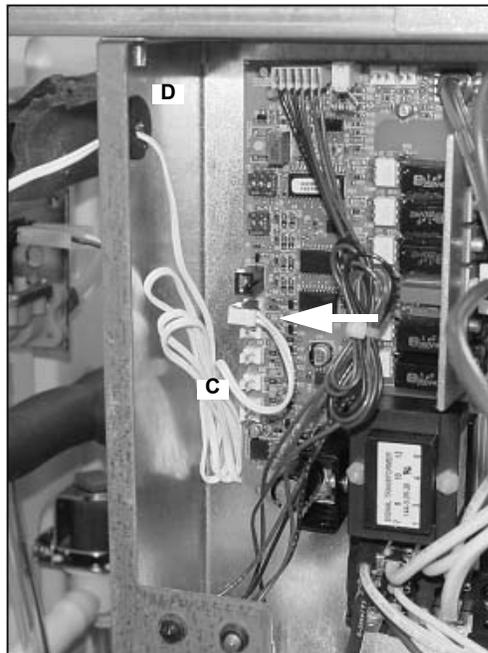

Figure 52.
57. Insert the proximity switch harness (C) through the control box and attach to the control board. Install the rubber grommet (D) in the hole (Figure 52).